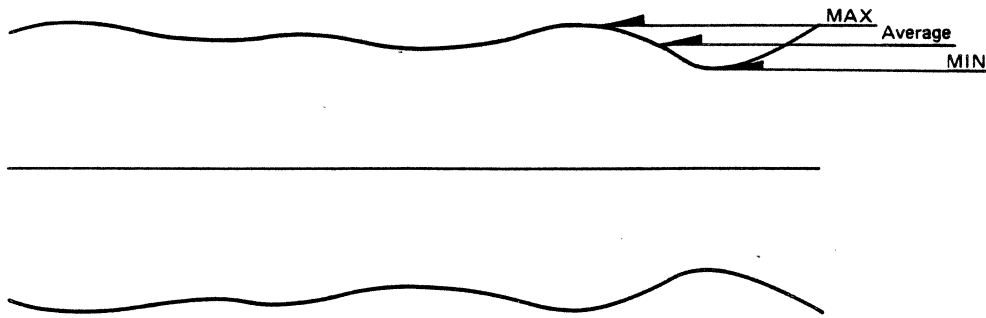

Fig. 4.1 Modulation
5. Check that the average amplitude level is **160 mV or more**. (See Fig. 4.1.)
(See Fig. 4.1.)